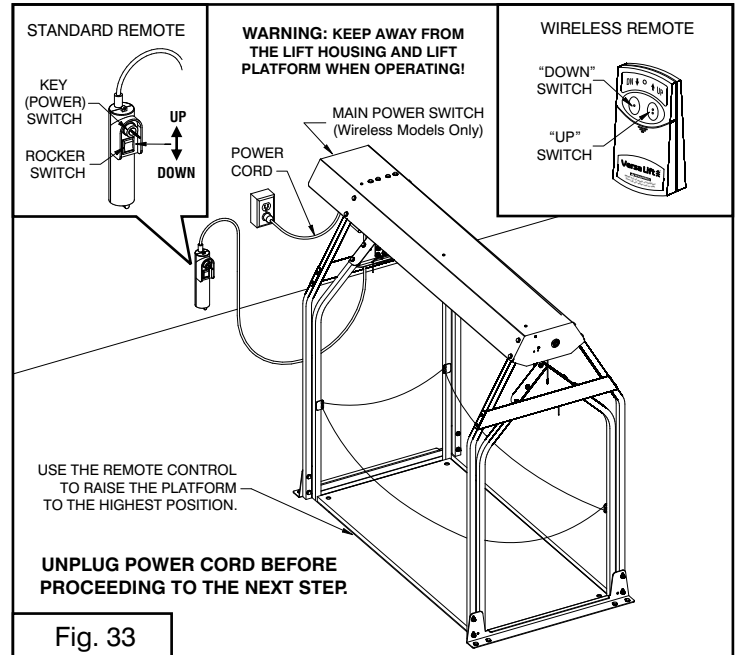

Fig. 33
**9-1.** Make sure the corded remote and power cord hang freely from the rear of the lift motor and are not wrapped around the housing, the legs or the motor (Fig. 33).
**9-2.** Make sure the key switch (Standard) or the power switch (Wireless) is in the "OFF" position, then plug in the power cord (Fig. 33).
**9-3.** Stand clear of the lift mechanism and keep your hands clear too. Turn the key or power switch to "ON." Jog the "UP" direction switch (Fig. 33 insets) and watch as the platform comes up. When the platform nears the opening, jog (bump) the "UP" direction switch to move the platform in small increments, watching to make sure that it does not catch or bind on the opening. (If it hangs or binds, turn the key or power switch to off and unplug the power cord, then look to see what the problem is. Correct any problems before continuing the operation.)